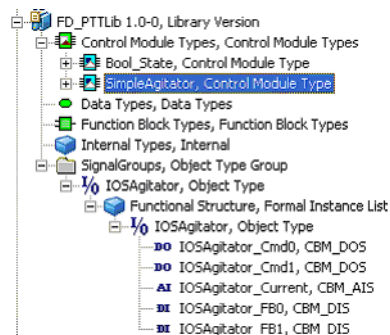

Figure 319. Object Type IOSAgitator
6. Add for each structured data type component the appropriate signal object below the Formal Instance List of object type IOSagitator (see Figure 319).